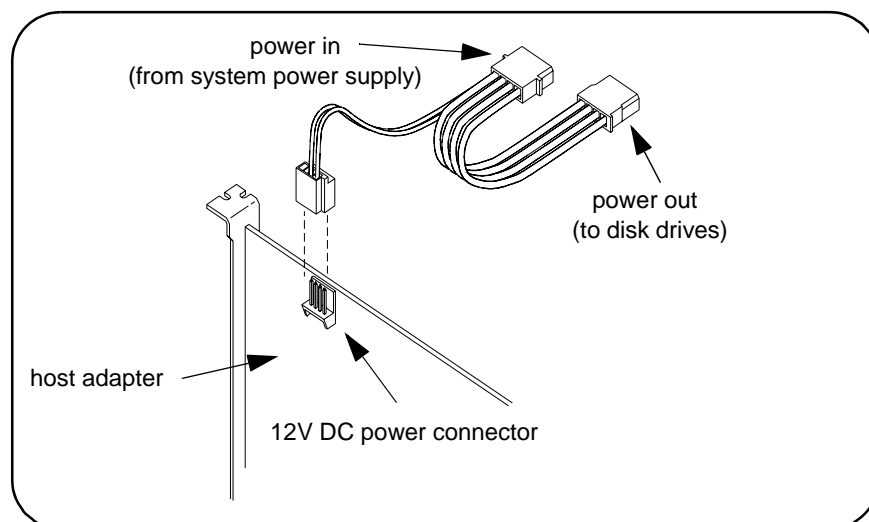

Figure 2-5. Connecting the Power Cable Between the PC and the Host Adapter.
- F. Connect the power cable between the adapter and the PC as shown in Figure 2-5. This provides power from the adapter to devices along the interface via the interface cable. This allows you to cycle power on any VXI mainframe in multi-frame systems without affecting other frames. The power is also available to other IEEE 1394 devices that may be part of the interface network. The Adaptec[®] host adapter is capable of supplying 12V with a maximum current draw of 1.5 amps.